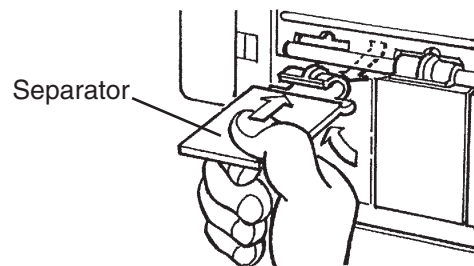

Fig. 29
- 3) Remove each separator by lifting it to the horizontal position and pushing it hard inward. See Fig. 29.